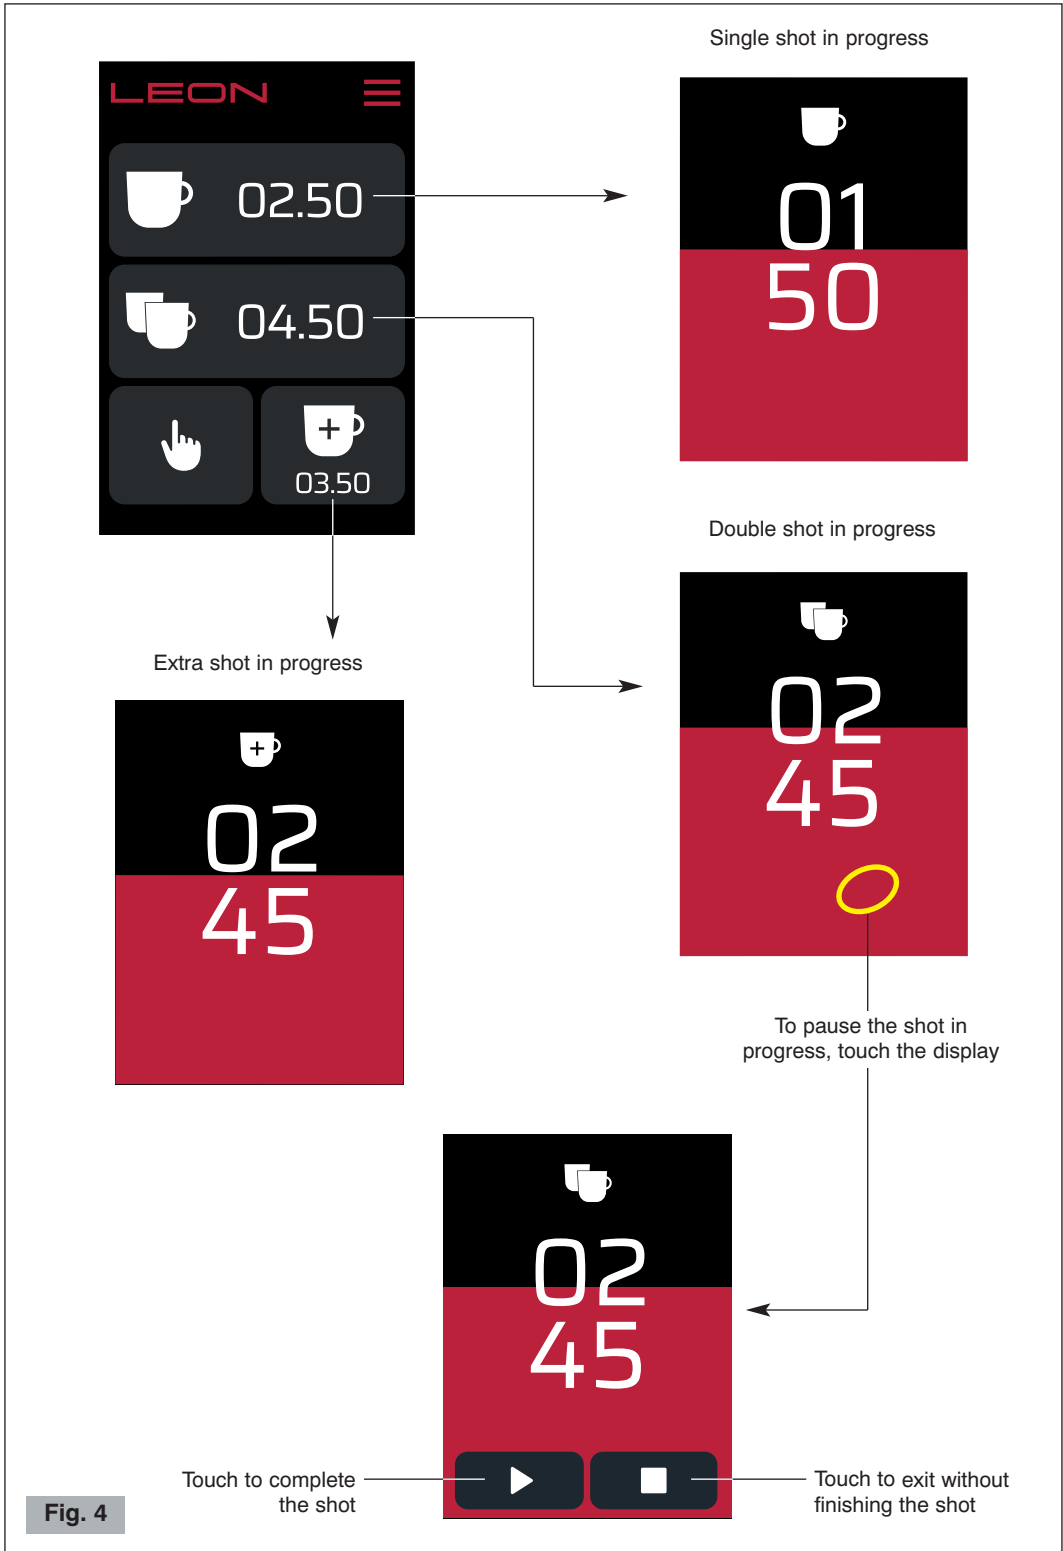

Fig. 4
- 2 Turn the ON-OFF switch to position "I" (8 Fig. 1). The control panel display (9 Fig. 1) lights up (see Fig. 4).
Automatic operation (see Fig. 4)